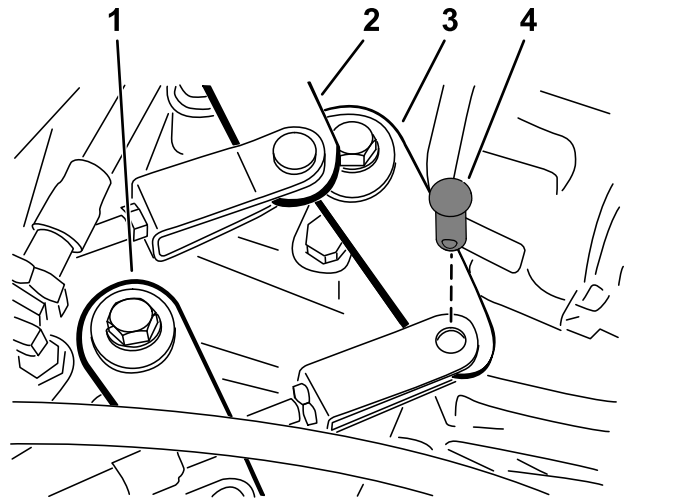

Figure 43
2. Remove the clevis pins securing the shift cables to the transaxle-shift arms (Figure 43).
1. Remove the clevis pin securing the high-low cable to the transaxle (Figure 43).